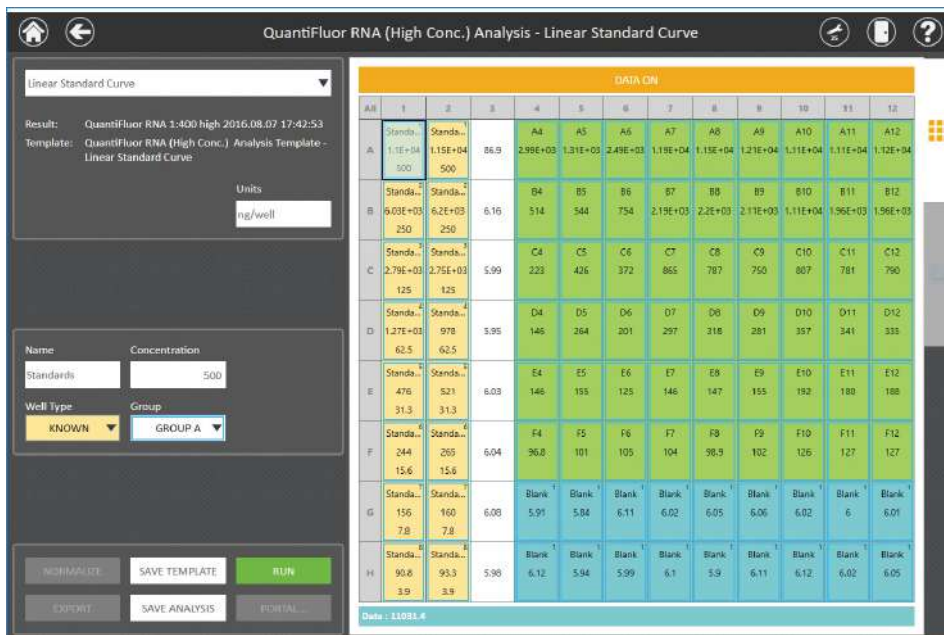

Figure 79. Analysis screen displaying the Portal button.
1. After running the analysis and assessing your data, press the **Portal...** button to open the 'Portal Data Export' screen (Figure 79).